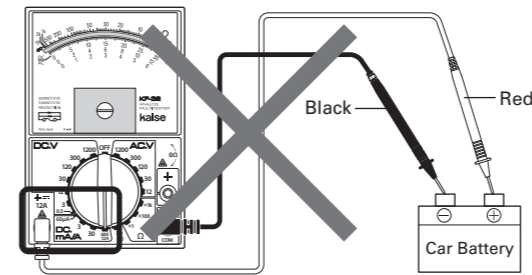
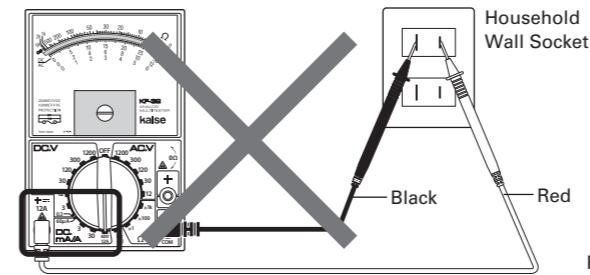

Fig. 3
Fig. 4
- 3. Do not measure any voltage in 12A DC range. Do not measure +/- terminals of car battery directly (fig. 3). Do not measure household wall socket (fig. 4).